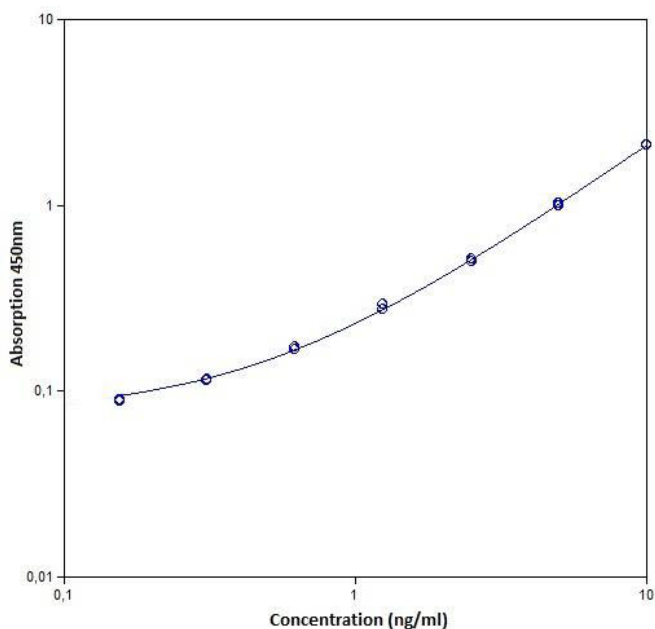

Fig. 8 Representative standard curve for Human LAP ELISA Kit. Human LAP was diluted in serial 2-fold steps in Sample Diluent.
- A representative standard curve is shown in Figure 8.